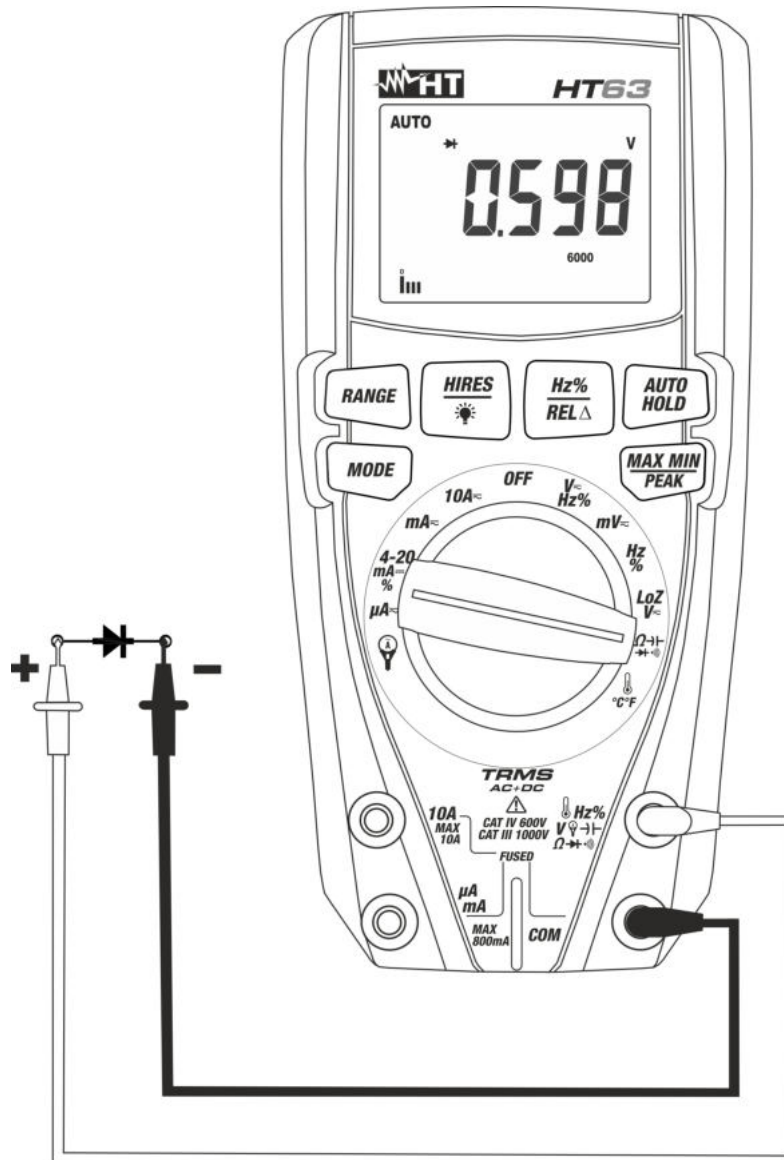

Fig. 7: Use of the instrument for diode test
4. Position the leads at the ends of the diode to be tested (see Fig. 7), respecting the indicated polarity. The value of directly polarized threshold voltage is shown on the display.
6. If the display shows the message “O.L”, the terminals of the diode are reversed with respect to the indication given in Fig. 7 or the P-N junction of the diode is damaged.